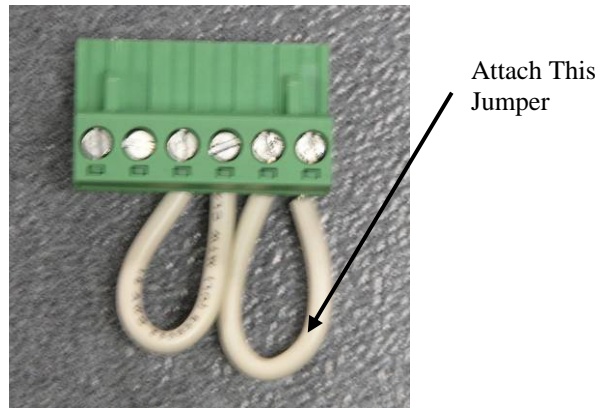

Figure 3: Phoenix Connector (J5)
2. Attach the jumper wire from pins 5 and 6 of the Phoenix Connector as shown in Figure 3.